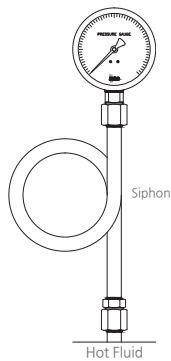

Figure 2
- 3) In case the fluid is hot, install siphon to bring down to proper temperature. (Figure 2)